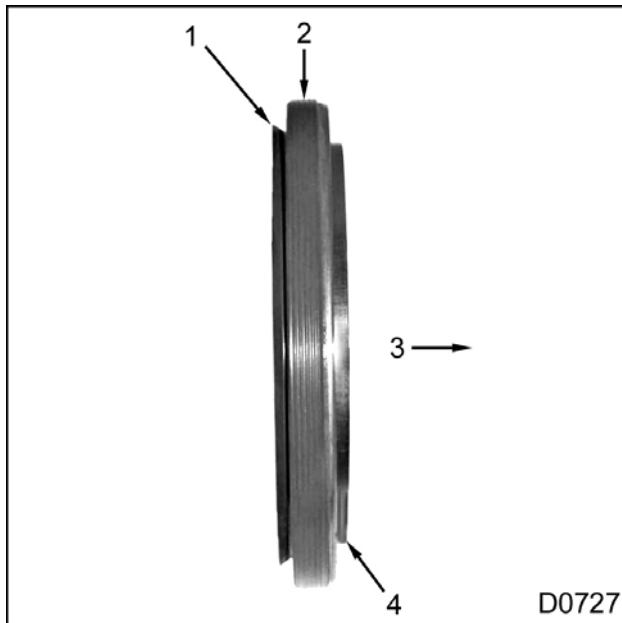

Figure 438 Rear main oil seal and wear sleeve orientation
3. Orient seal as shown in (Figure 438) and slide on Rear Seal / Wear Sleeve Installer. Make sure the beveled edge of the wear sleeve is oriented toward the crankshaft.